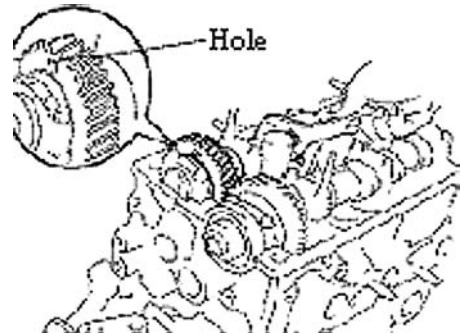

Figure 54
23. Remove camshaft. See (Figure 54)